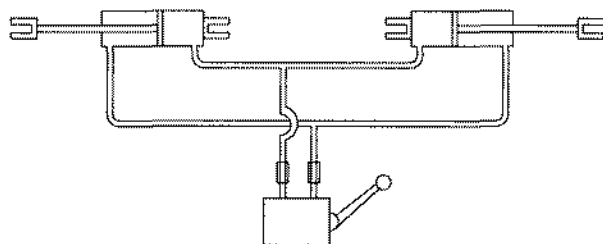

Fig. 3 Two Cylinder Wing Lift Circuit
Fig. 3 shows a simple two (2) cylinder circuit used to fold a pair of wings. This system is used on Wil-Rich 657 DCR's with a single pair of folding cylinders.